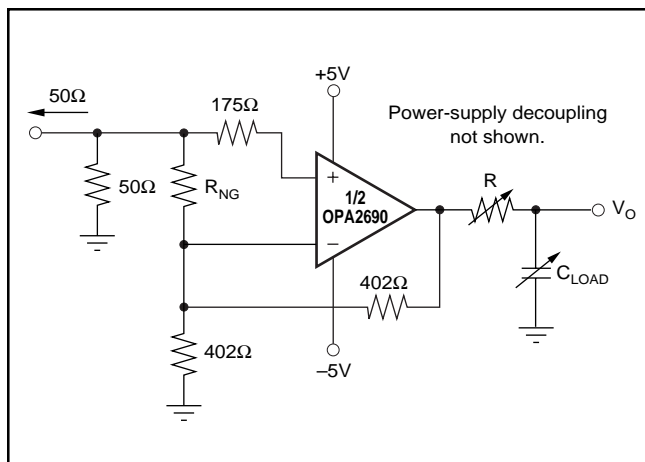
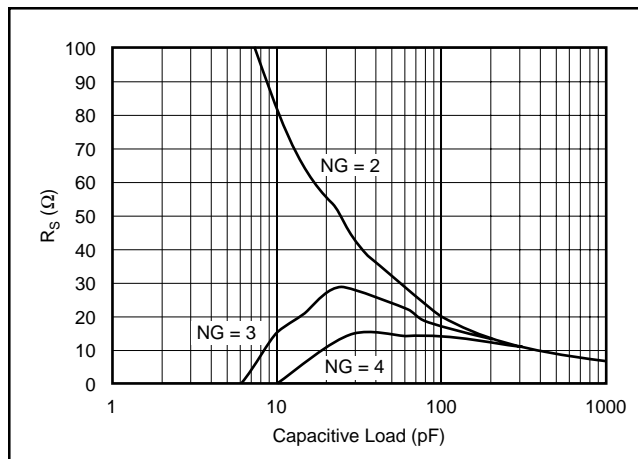

FIGURE 13. Capacitive Load Driving with Noise Gain Tuning.
FIGURE 14. Required  $R_S$  vs Noise Gain.
The criterion for setting this  $R_S$  resistor is a maximum bandwidth, flat frequency response at the load. For the OPA2690 operating in a gain of +2, the frequency response at the output pin is already slightly peaked without the capacitive load requiring relatively high values of  $R_S$  to flatten the response at the load. Increasing the noise gain will reduce the peaking as described previously. The circuit of Figure 13 demonstrates this technique, allowing lower values of  $R_S$  to be used for a given capacitive load.
This gain of +2 circuit includes a noise gain tuning resistor across the two inputs to increase the noise gain, increasing the unloaded phase margin for the op amp. Although this technique will reduce the required  $R_S$  resistor for a given capacitive load, it does increase the noise at the output. It also will decrease the loop gain, nominally decreasing the distortion performance. If, however, the dominant distortion mechanism arises from a high  $R_S$  value, significant dynamic range improvement can be achieved using this technique. Figure 14 shows the required  $R_S$  versus  $C_{LOAD}$  parametric on noise gain using this technique. This is the circuit of Figure 13 with  $R_{NG}$  adjusted to increase the noise gain (increasing the phase
**d) Connections to other wideband devices** on the board may be made with short direct traces or through onboard transmission lines. For short connections, consider the trace and the input to the next device as a lumped capacitive load. Relatively wide traces (50mils to 100mils) should be used, preferably with ground and power planes opened up around them. Estimate the total capacitive load and set  $R_S$  from the plot of "Recommended  $R_S$  vs Capacitive Load." Low parasitic capacitive loads (< 3pF) may not need an  $R_S$  because the OPA2690 is nominally compensated to operate with a 2pF parasitic load. Higher parasitic capacitive loads without an  $R_S$  are allowed as the signal gain increases (increasing the unloaded phase margin, see Figure 14). If a long trace is required, and the 6dB signal loss intrinsic to a doubly-terminated transmission line is acceptable, implement a matched impedance transmission line using microstrip or stripline techniques (consult an ECL design handbook for microstrip and stripline layout techniques). A 50Ω environment is normally not necessary on board, and in fact, a higher impedance environment will improve distortion as shown in the distortion versus load plots. With a characteristic board trace impedance defined (based on board material and trace dimensions), a matching series resistor into the trace from the output of the OPA2690 is used as well as a terminating shunt resistor at the input of the destination device. Remember also that the terminating impedance will be the parallel combination of the shunt resistor and the input impedance of the destination device; this total effective impedance should be set to match the trace impedance. The high output voltage and current capability of the OPA2690 allows multiple destination devices to be handled as separate transmission lines, each with their own series and shunt terminations. If the 6dB attenuation of a doubly-terminated transmission line is unacceptable, a long trace can be series-terminated at the source end only. Treat the trace as a capacitive load in this case and set the series resistor value as shown in the plot of "Recommended  $R_S$  vs Capacitive Load." This will not preserve signal integrity as well as a doubly-terminated line. If the input impedance of the destination device is low, there will be some signal attenuation due to the voltage divider formed by the series output into the terminating impedance.